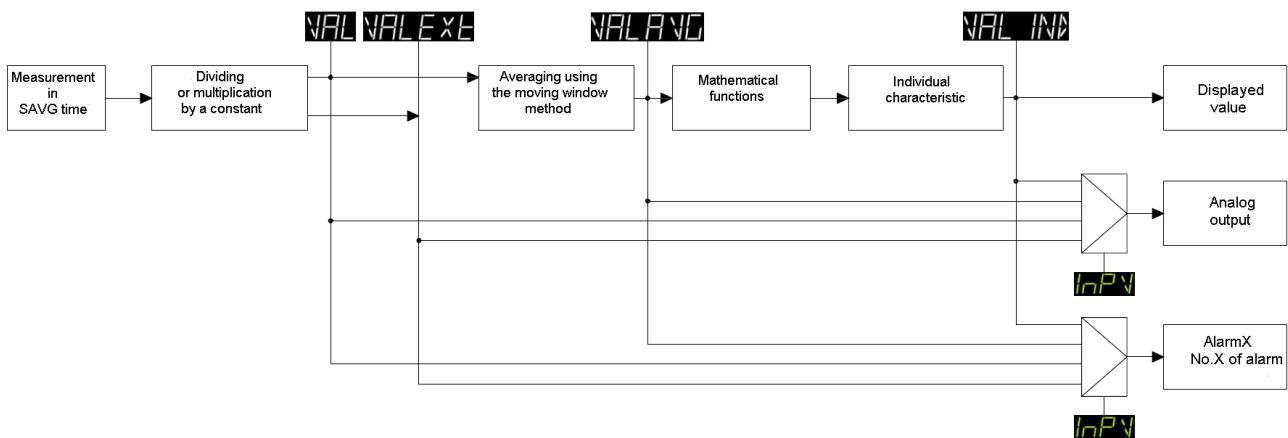
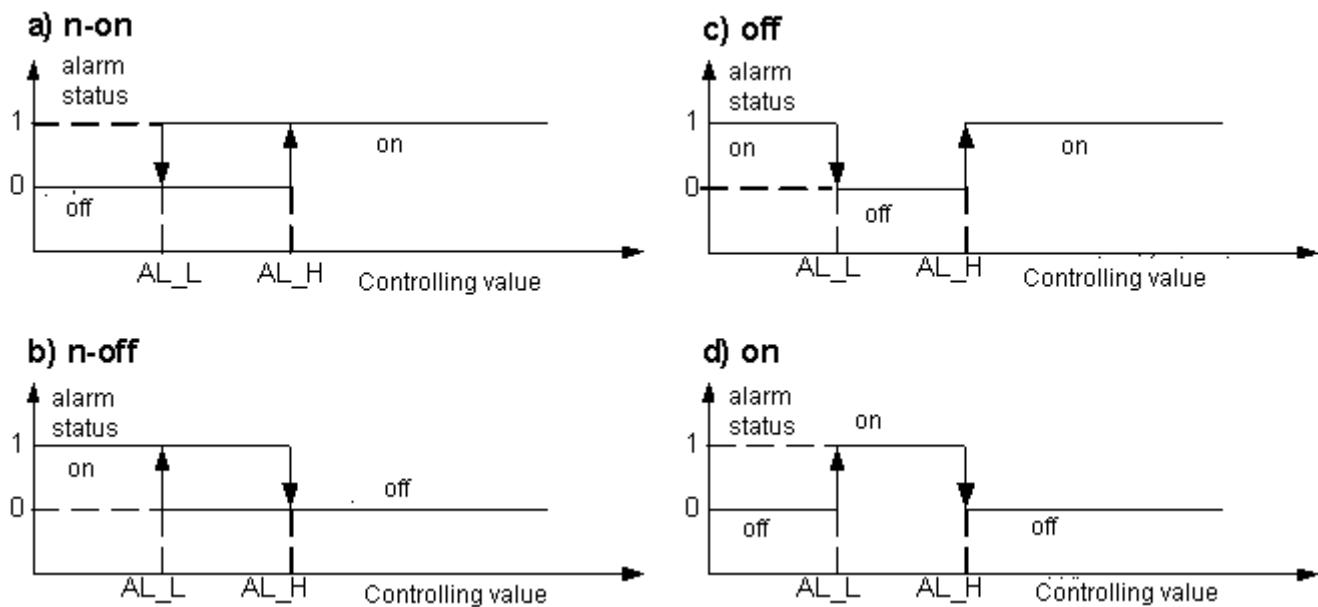

Fig. 9: Measurement recalculation.
Fig. 12: Alarm types: a) n-on; b) n-off; c) off; d) on.
As mentioned above, the measuring value is several times recalculated. The sequence of operations is shown in Figure 9.
- **InPV** – setting which defines the quantity that will control the analog output signal (see Fig. 9).
Each alarm output is independently configured and can be configured to work in one of six modes. It is possible to select the value controlling the alarm (see Fig. 9), define the alarm state change thresholds and define delays alarm activation and deactivation for each of the alarms. Fig. 12 shows how the alarms work in n-on, n-off, off and on modes. Additional manual working modes H-on and H-off enable to permanently activate or deactivate the alarms. An additional REG operation mode has also been added to the alarm type settings. In this mode, the alarm status is controlled via the RS-485 interface by MODBUS protocol registers.